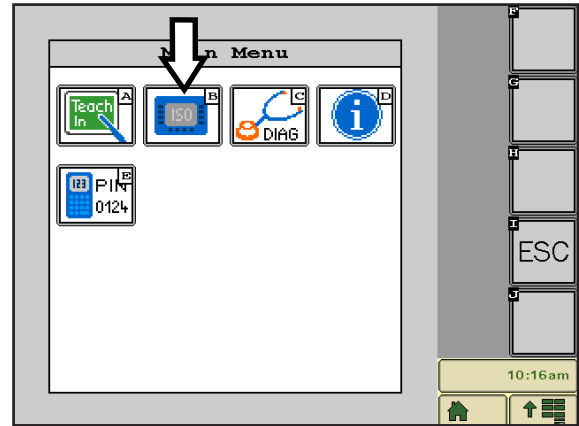

Fig. 14: Select terminal configuration
Tap the VT symbol (B) in the main menu (see Fig. 14) to open the terminal configuration.